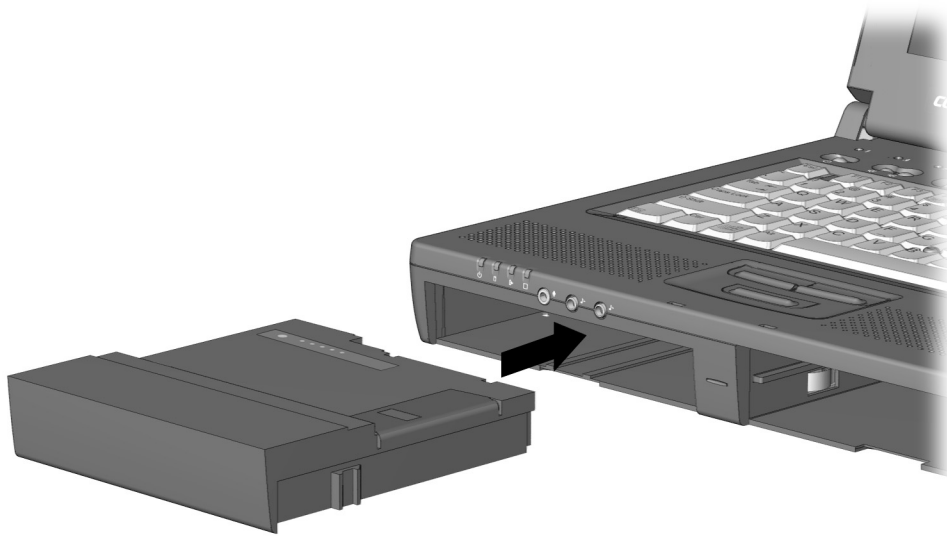

Figure 5-10. *Inserting a Battery Pack into the Battery Bay*
1. With the battery pack label facing up and the battery pack contacts facing the computer, slide the battery pack into the battery bay until it clicks into place (Figure 5-10).